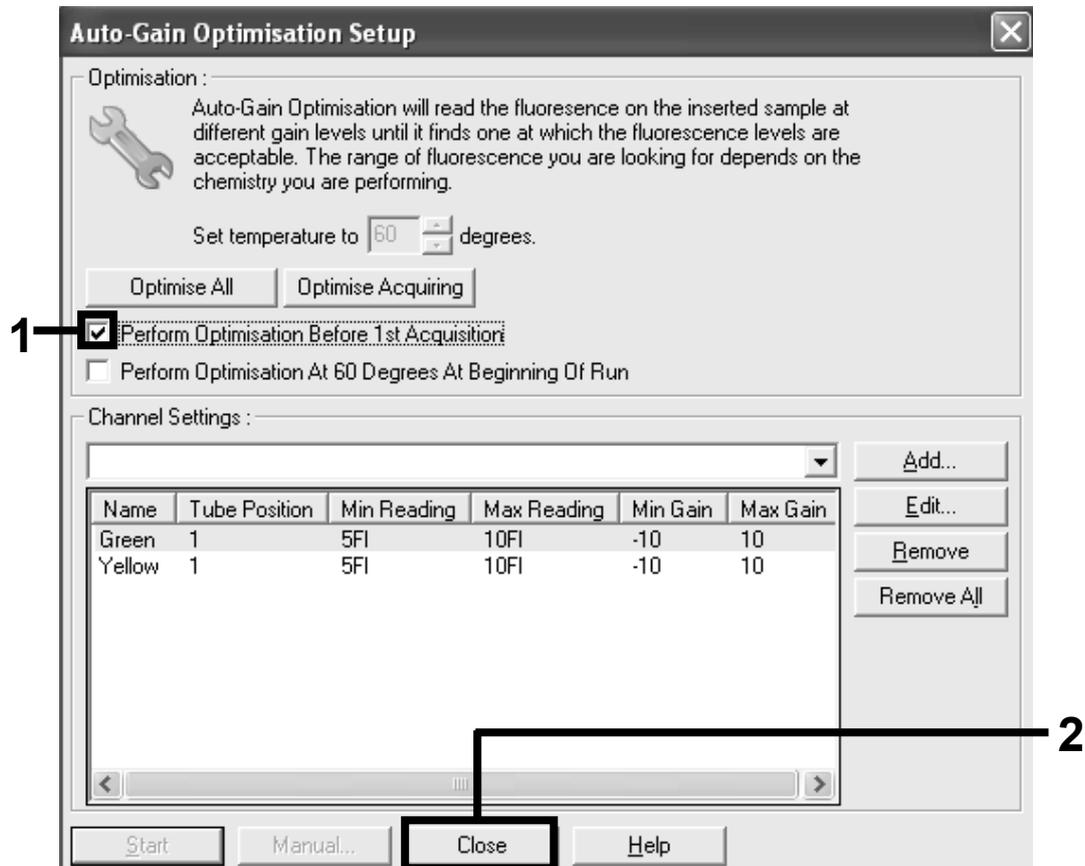

Figure 12. Selection of green and yellow channels.
19. Check the "Perform Optimisation before 1st Acquisition" box, then click the "Close" button to return to the wizard (Figure 12).